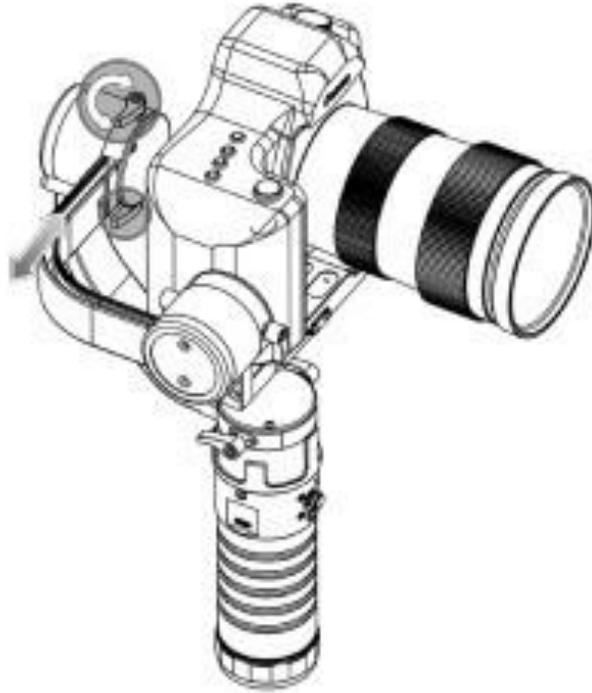

Fig. 6. Roll balance adjustment
- Release the roll thumb screw (Fig. 6).